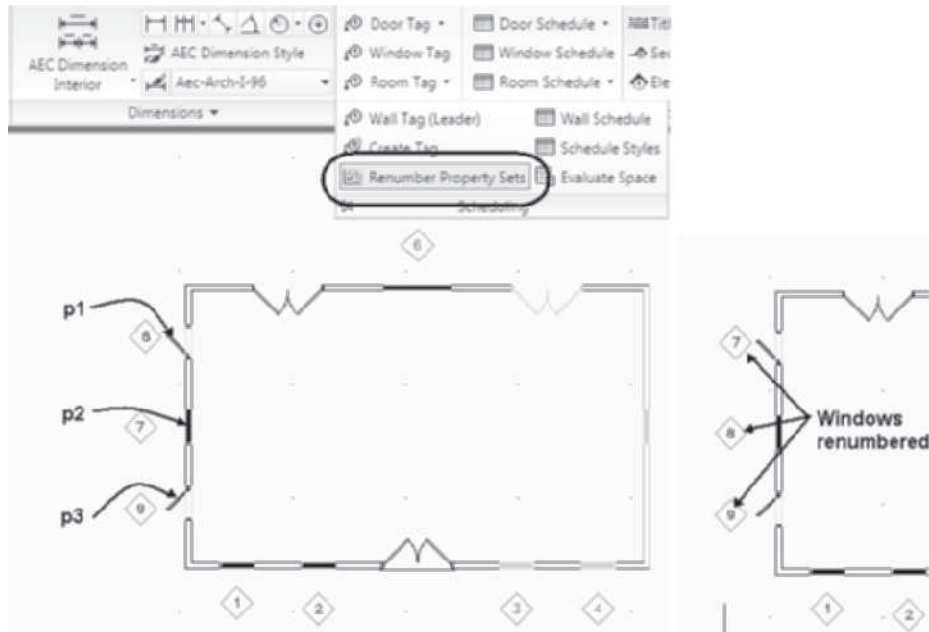

FIGURE 11.60 Tags numbered using the Renumbered Data tool
10. Select the **Renumber Property Sets** from the slide out of the Scheduling panel. Edit the **Data Renumber** dialog box as follows: Property Set = **Window Objects**, Property = **Number**, Start Number = 7, Increment = 1, and clear the **Attach New Property Set** checkbox. Click **OK** to dismiss the **Data Renumber** dialog box. Select the windows of the left wall using the following workspace prompts (see Figure 11.60).